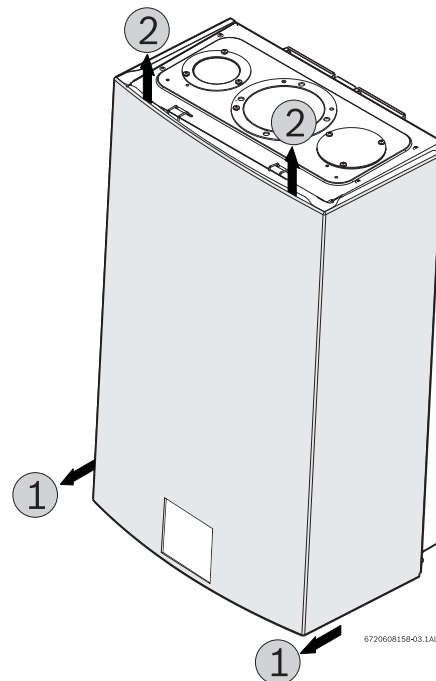

Fig. 3 Removing front cover
- ▶ **5.** Lift front cover outward then upward to remove, see Fig. 3.